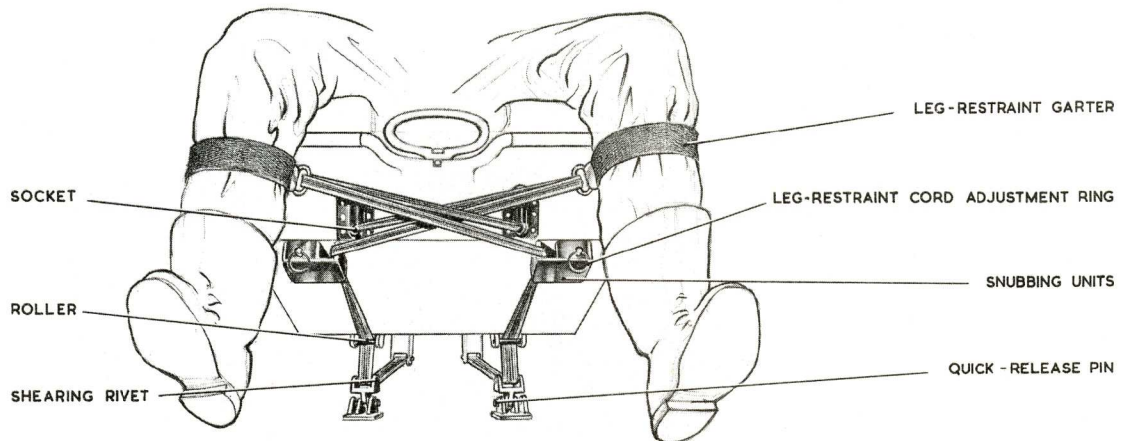

Fig. 6. Arrangement of leg restraint cords
18. The procedure for strapping-in is as follows, refer to fig. 6, 7, 8 and 9 for detail as necessary:-